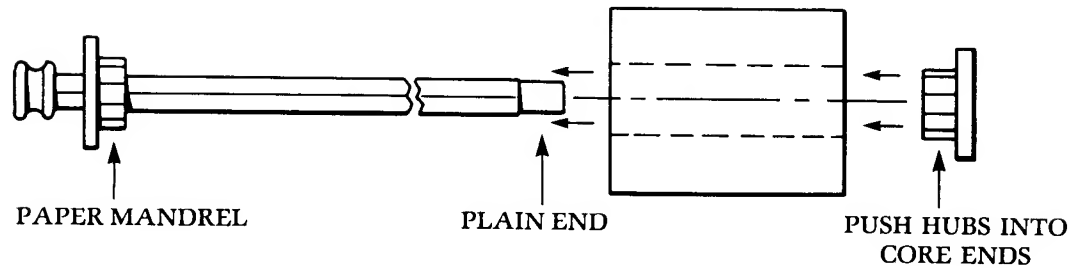

Figure 5. Installing Paper Roll on the Paper Mandrel.
4. Remove the **CORE HUB** from the plain end of the **PAPER MANDREL**, as shown in Figure 5, and insert the mandrel through the roll.